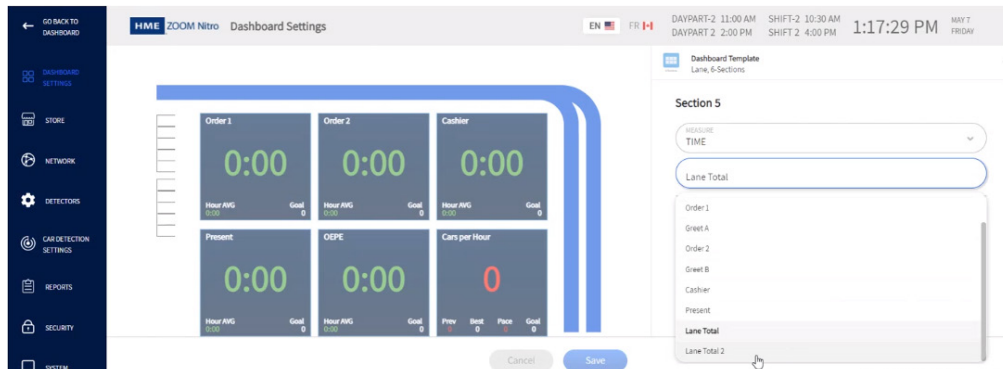

Fig. 7.7
1. Select **DASHBOARD SETTINGS** in the sidebar menu to open the page. Click on the dashboard section/pane you wish to change (Section 5 in this example, lower middle pane), and under the Dashboard Template, choose the option from the drop-down menu of the second field "Metric." In this example, it's Lane Total 2. See Fig. 7.7.